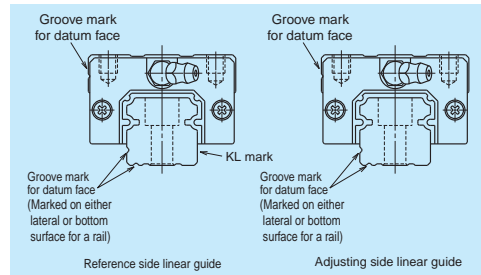

Fig. 9.1 Datum face
(1) Arrangement
- In case that two or more linear guides are used together, one linear guide is designated as a reference side guide, and the rest is adjusting side guide(s). The reference side linear guide has its reference number, serial number, and "KL" mark on the opposite side of the datum face (Fig. 9.1).